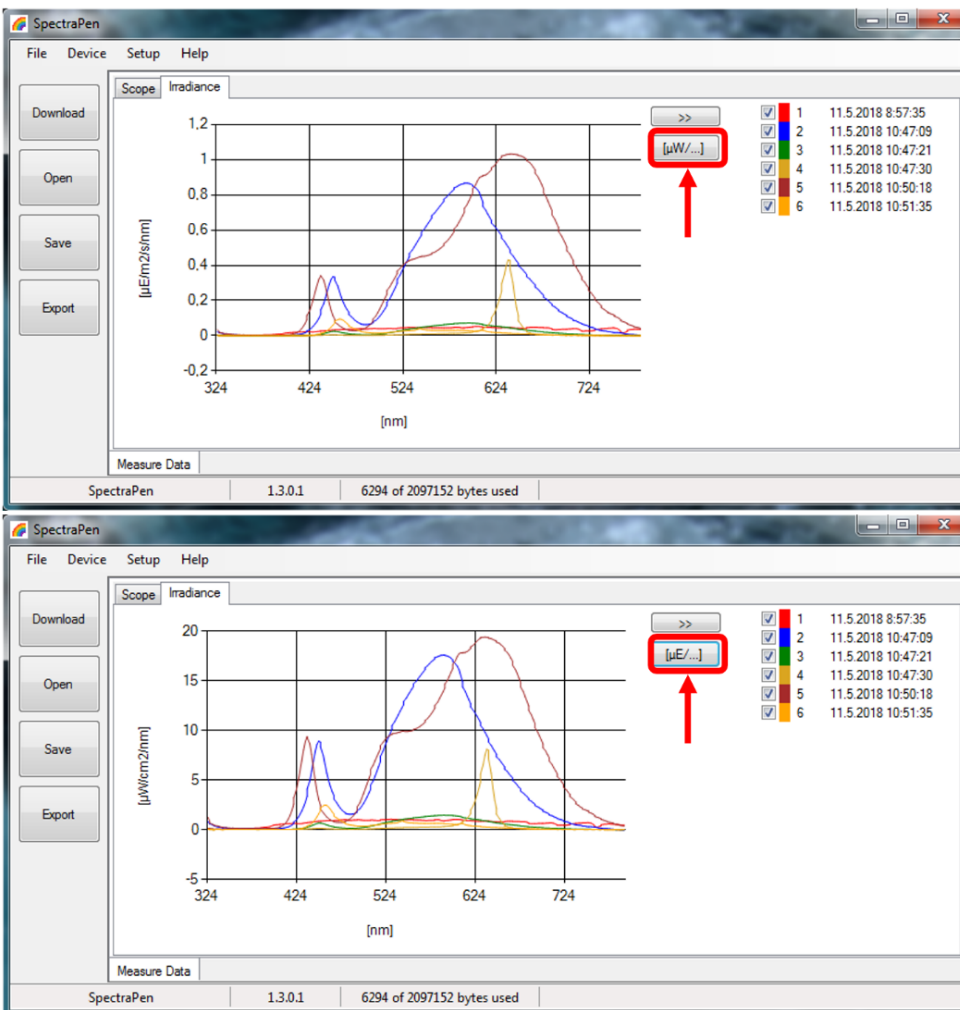

Fig. 33 Irradiance shown in different units.
10. Select **Irradiance** tab to view the irradiance data stored either as  $\mu\text{mol}\cdot\text{m}^{-2}\cdot\text{s}^{-1}\cdot\text{nm}^{-1}$  or per  $\mu\text{W}\cdot\text{cm}^{-2}\cdot\text{nm}^{-1}$ . To change the units in which the spectra is displayed click on the unit icon as shown in Fig. 33.